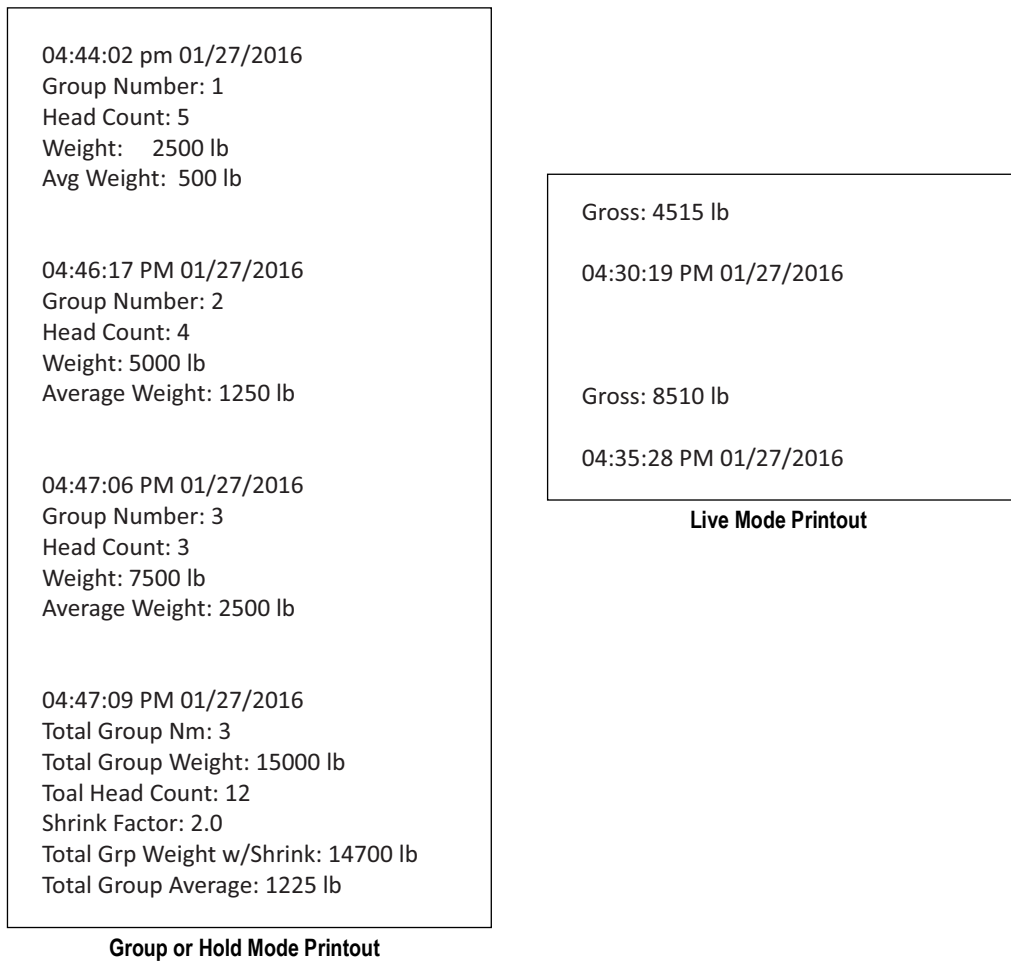

Figure 5-1. Ticket Print Examples
7. When all groups for a load are complete, press  and the load ticket data will be sent to the serial port. See Figure 5-1 on page 45.
When live mode is enabled, the indicator always displays the current scale weight. Press  to send the data to the serial port, see Figure 5-1.
7. When all groups for a load are complete, press  and the load ticket data will be sent to the serial port, see Figure 5-1 on page 45.